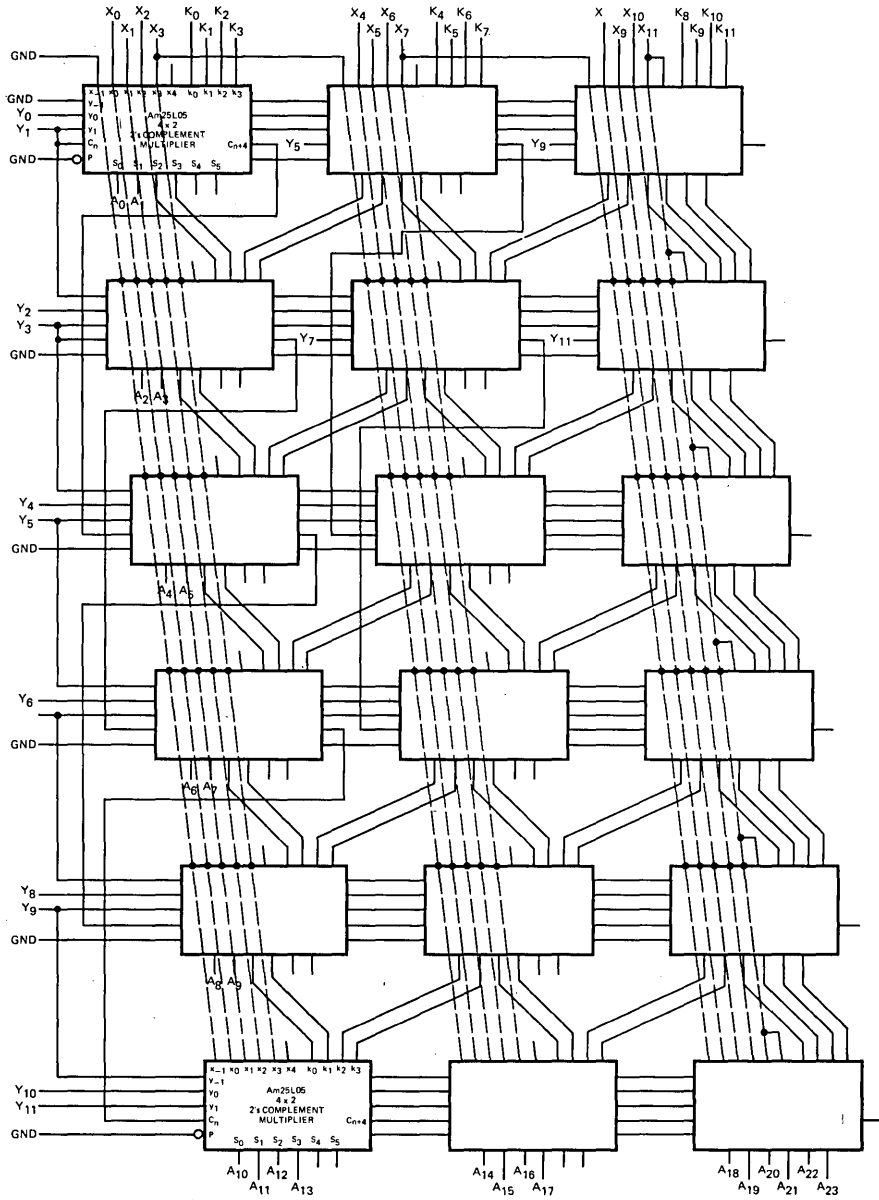

Figure 1. 12 x 12 Low-Power Signed Multiplier
- For the highest speed array with the multipliers arranged in a parallelogram structure carries between certain multipliers are exchanged with the y carry-ins needed for 2's complement subtract. The delays in the array are then equalized as best possible as shown in Figure 1.